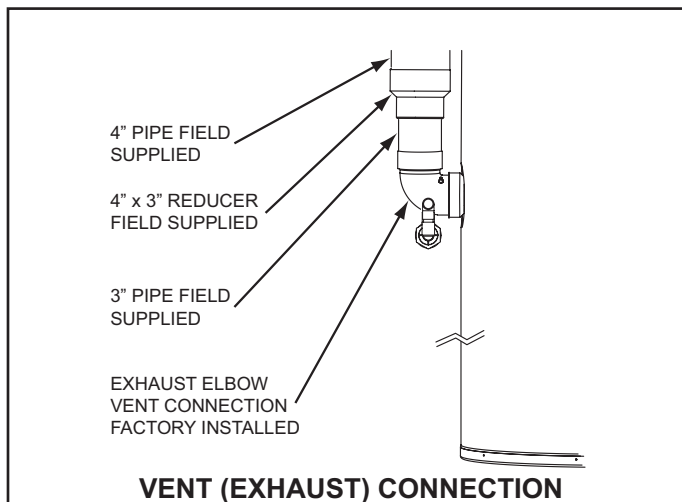

Figure 14
11. If installing 4 inch pipe transition to 3 inch pipe at the exhaust elbow on the water heater as shown in Figure 14. The field installed 3\" pipe between the exhaust elbow and the 4\" x 3\" reducer coupling should be 18 inches (45 cm) or less in length.
12. If installing 4 inch vent pipe transition to 3 inch pipe at the exhaust elbow on the water heater as shown in Figure 14 on page 23. The field installed 3" pipe between the exhaust elbow and the 4" x 3" reducer coupling should be 18 inches (45 cm) or less in length.